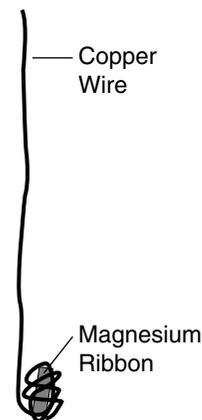

Figure 2.
4. Obtain a piece of copper wire about 15-cm long. Twist and fold one end of the copper wire around a pencil to make a small “cage” into which the magnesium ribbon may be inserted. See Figure 2.